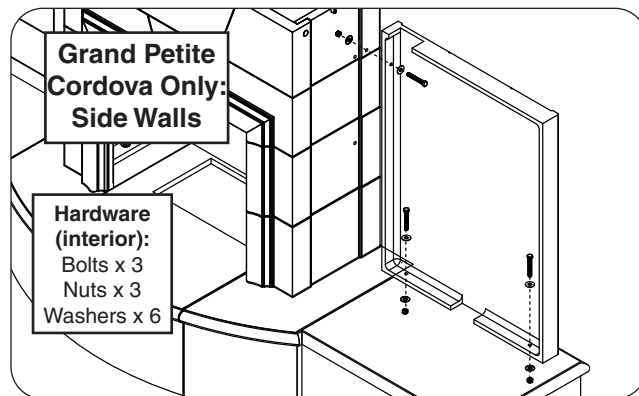

Fig. 26-1 Assemble rear side-wall (skip if n/a)
2. Place the rear side-wall piece beside the fireplace body as shown. Carefully align the pilot holes, and repeat the hardware installation process (interior hardware kits). See Fig. 26-1.